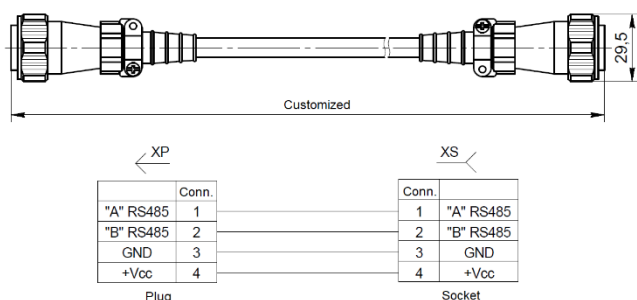

Figure 5. WY20/WY20 universal commutation cable
The WY20/WY20 universal commutation cable from the supplied package (see Fig. 5) is used for connection of the DN-130(P) to the MU-150 / MU-150E / MK-140 unit of the DEL-150 System.